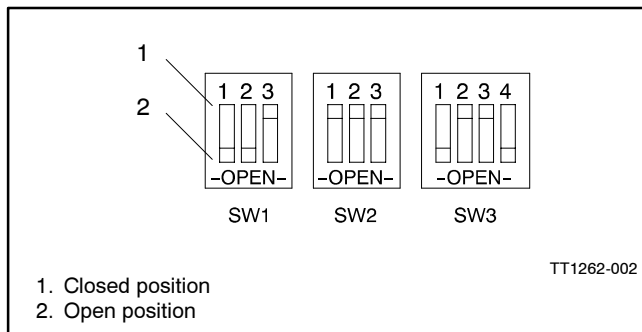

Figure 2-2 DIP Switches
3. Set the DIP switches SW1, SW2, and SW3 on the Modbus module according to Figure 2-2, Figure 2-3, and Figure 2-4.